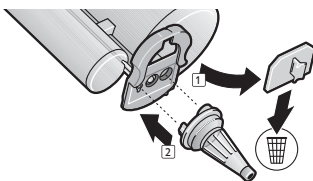

Fig. 2
2. Remove the cap from the cartridge and discard. Attach a new mixing tip (Fig. 2).